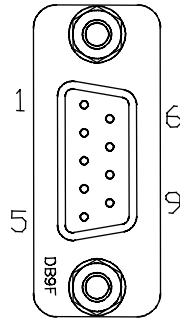

Figure 2-4. J8 MICRO-PROCESSOR INTERFACE Connector
- Connect computer interface cable to J8 MICRO-PROCESSOR INTERFACE connector on rear of subrack (refer to figure 2-4 and table 2-4 for J8 MICRO-PROCESSOR INTERFACE definition).
The J8 MICRO-PROCESSOR INTERFACE connector on the rear of the MCR20XX Series (NTL107AC) subrack is a 9-pin female D-sub connector that permits serial interface with the MCPA system. Refer to figure 2-4 and table 2-4 for connector definition. J8 will be used for the initialization process of this system.